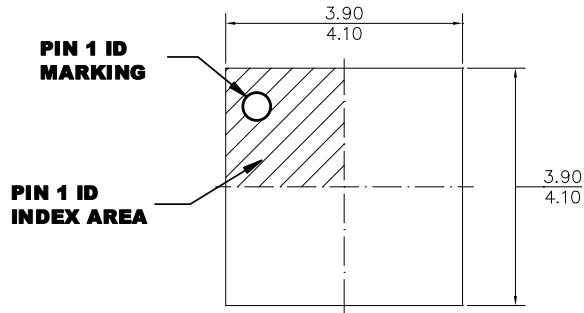

**Figure 17: Typical Application Circuit (Boost + LDO, VOUT\_BOOST = 12V, VOUT = 9V, fsw = 400kHz, with EMI Filters)**
11) The recommended PCB layout is based on the typical application circuit (see Figure 17 on page 48).